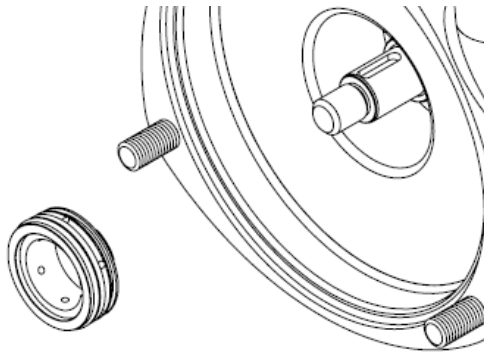
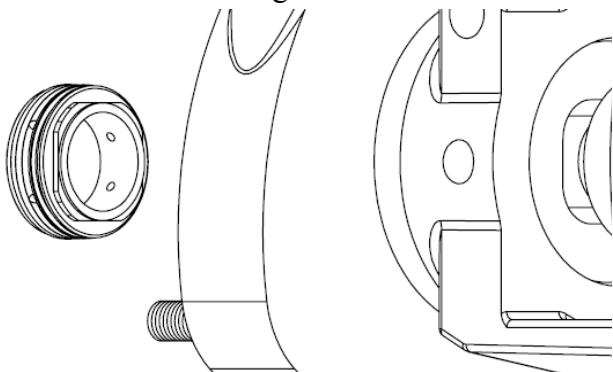

Figure 8
Figure 9
1. Use a food grade lubricant to lubricate all o-rings. It is important that the stationary and rotating seal o-rings are lubricated to ease assembly. Slide the stationary seal over the shaft and into the casing, figure 8. Line up a flat on the stationary seal to the a flat of the window of the casing and gently press the stationary seal into the casing bore. See figure 9.